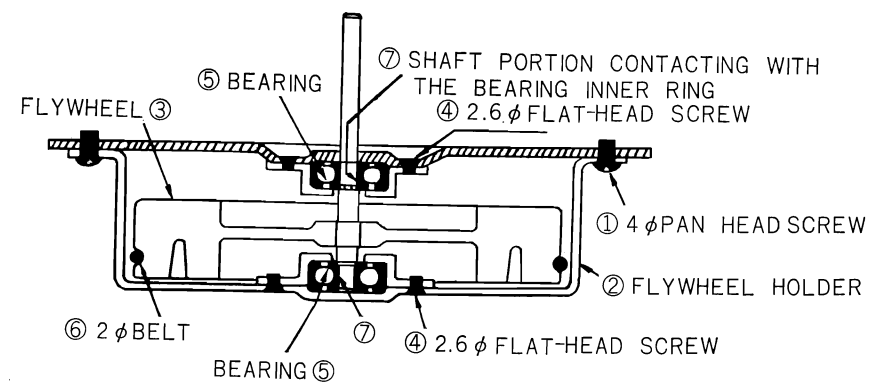

Fig. 9
Remove three 4mm ϕ pan head screws (1), the flywheel holder (2), and 2mm ϕ belt (6) in the same manner shown in Fig. 9.